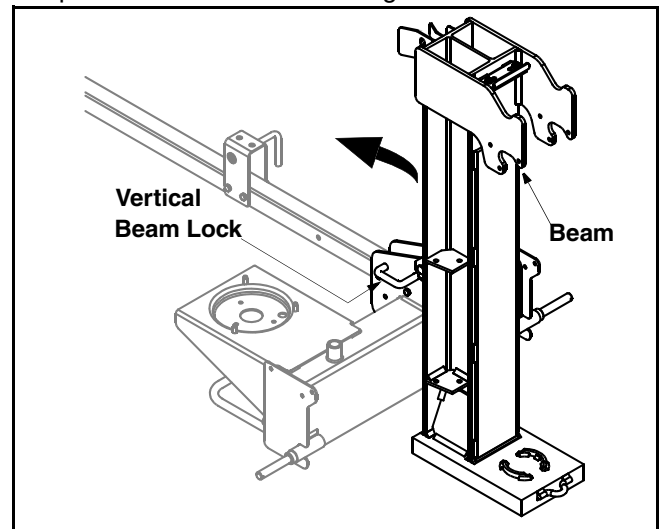

Figure 2
- The log splitter is shipped with the beam in the vertical position. Pull out the vertical beam lock, rotate it back, and pivot the beam to the horizontal position until it locks. See Figure 2.